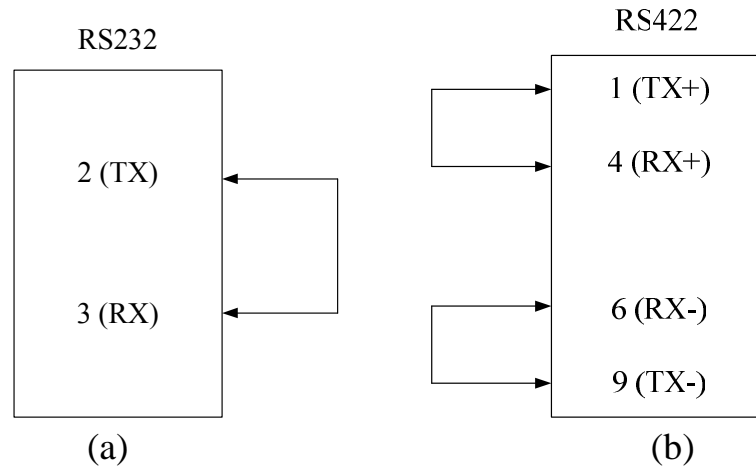

Fig. 3-7-2 、 Short-circuit Wiring Diagram (a) RS232 (b) RS422
- To test the serial port communication, please short-circuit the pin connection first, as shown in Figure 3-7-2.